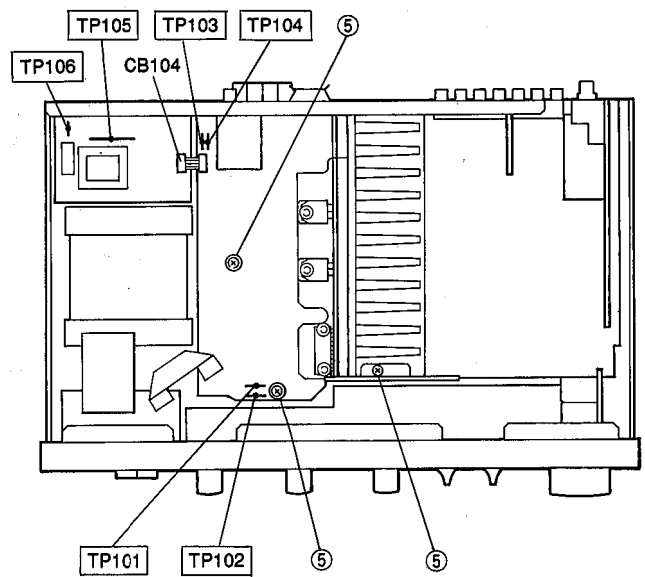

Fig. 3
- c. Remove 3 screws (⑤) fixing the Main Unit in Fig. 3.
- d. Detach 1 connector terminal (CB104) in Fig. 3.
- e. Operating checks can be taken by shorting between following test points in Fig. 3.